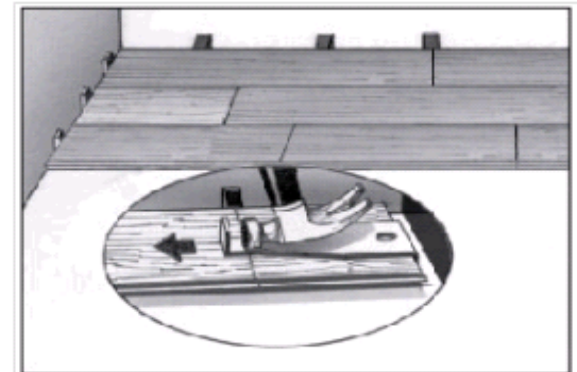

Fig. 16
15. Use a pull bar when necessary to ensure joints are tight (Fig. 16).